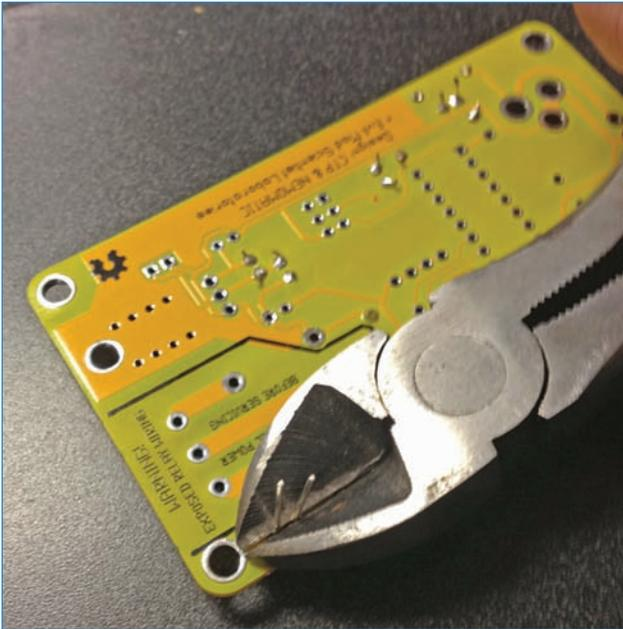

FIGURE 3.18 Clip off excess leads when you're confident the component is secure.
- 8.** If the solder looks good, clip off the excess leads; you won't need them. See Figure 3.18. You can then move on to the next component.